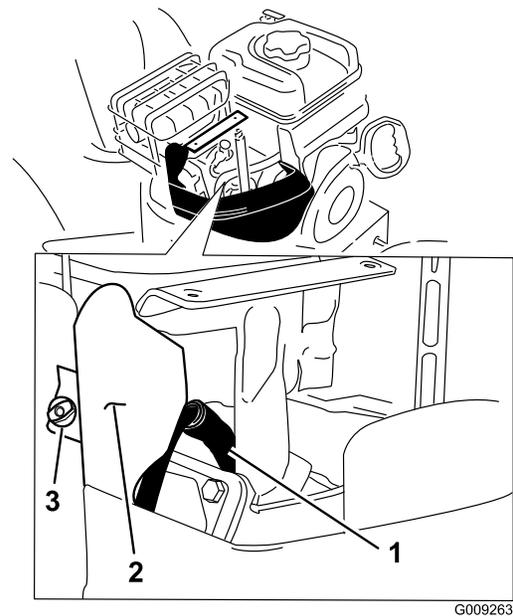

Figure 47
- Clean around the base of the spark plug (Figure 47).